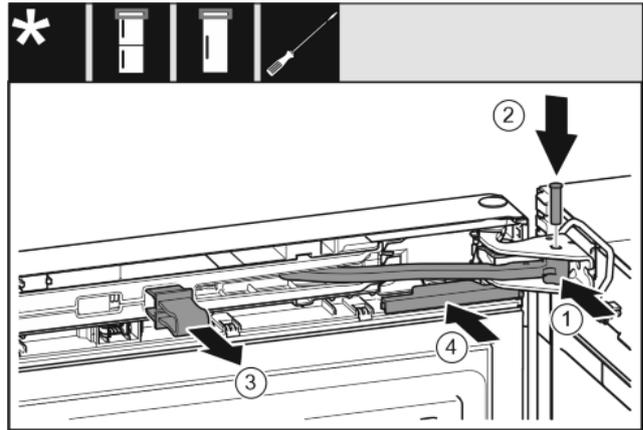

Fig. 39
- ▶ Turn the hinge in the bearing bracket. Fig. 39 (1)
- ▶ Insert the bolt in the bearing bracket and hinge. Make sure that the latching lug sits correctly in the groove. Fig. 39 (2)
- ▶ Remove the locking device. Fig. 39 (3)
- ▶ Slide on the cover. Fig. 39 (4)